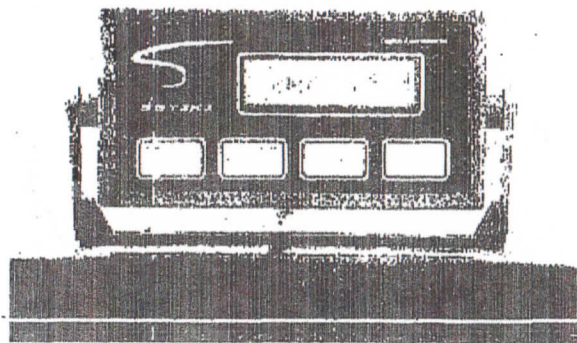

Figure 1.
11. Console should now be mounted as pictured below; see Figure 1.